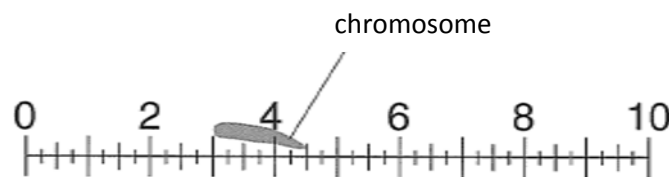

Fig. 2.1
Fig. 2.1 shows the view that the student saw when looking down the microscope at the eyepiece graticule and the chromosome.
Using a stage micrometer with 0.01mm divisions, the students found that the entire length of the eyepiece graticule on Fig. 2.1 matched 2 divisions on the stage micrometer.
- (b) Calculate the actual length of the chromosome shown in Fig. 2.1 in μm .